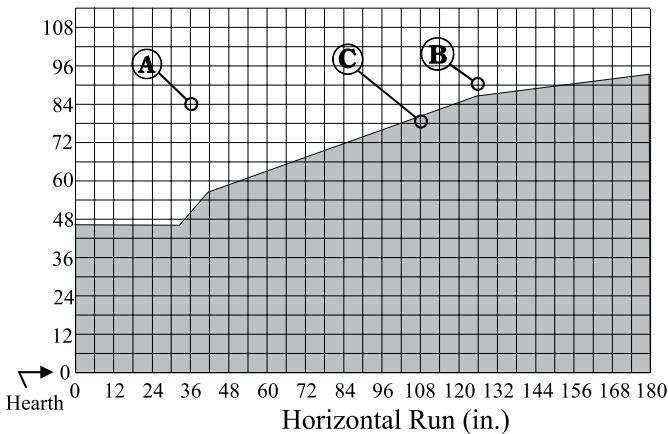

Figure 22a. H34DL Multi-Elbow Venting Graph. (Applicable Models)
- your vent run must fall within the limits set by Figure 22a
Measure the vertical height from the fireplace hearth to the centre of the termination and the horizontal run from the fireplace flue collar to the wall flange of the termination. Plot on the Venting Graph (Fig. 22a) with an 'X'.
Venting runs *must* fall within the limits set by the venting graph (see Figure 22a).
For H34DL distance 'H' must be a minimum of 46". For H38DL and H42DL distance 'H' must be a minimum of 50". The vent run must comply with figure 22a.